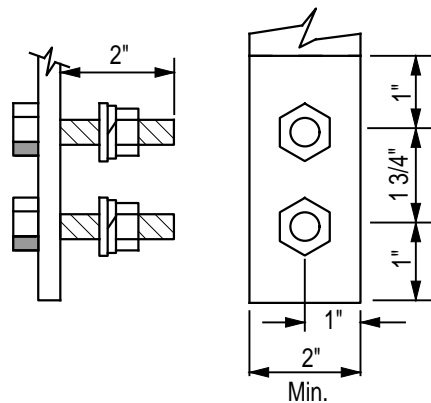

FIGURE 3
- Two 1/2 inch steel bolts on 1-3/4 inch vertical centers shall be provided for each landing position, see Figure 3. These bolts, 2 inches in length, shall be provided with nuts, flat washers, and pressure maintaining spring washers. All parts shall be plated to prevent corrosion.